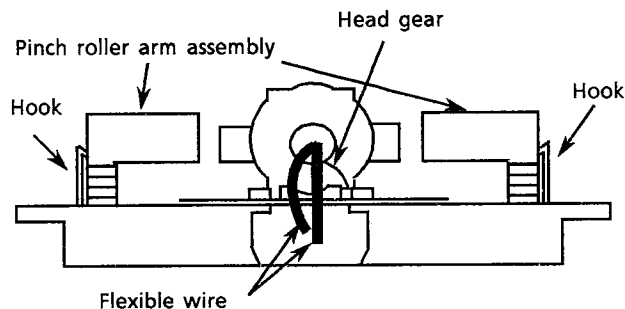

Fig 12
2. Unsolder the flexible wire (Fig 12).
2. Release the hook holding the pinch roller arm assembly to remove the assembly (Fig 12).